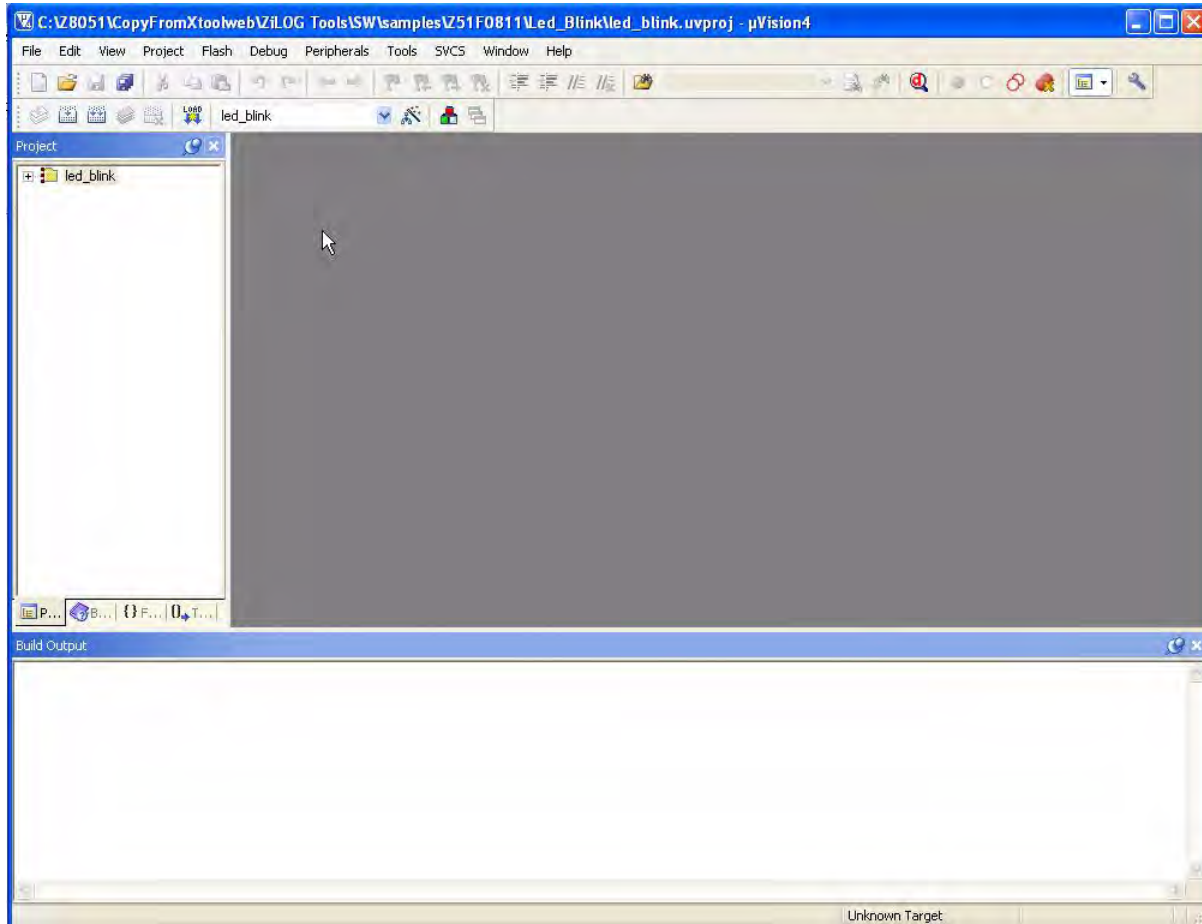

Figure 5. Opening The led_blink Project
2. Locate and select a uVision project file called `led_blink.uvproj`, and click **Open**. In the left-hand pane of the IDE, an item called `led_blink` appears with a plus sign icon ([+]) next to it, as shown in Figure 5. This top-level `led_blink` entity is what uVision calls a *target*; i.e., the ultimate entity that will be built. You can think of this *target* as representing the executable you will build.